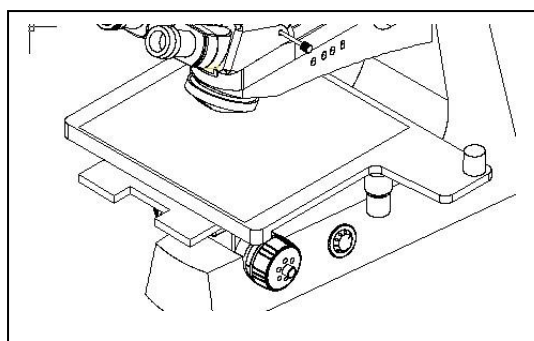

Fig.2
1. Loosen the setscrew①.
2. Push the stage into the holddown groove ②and make the stage touch the retainer③.
3. Tighten the setscrew① until the stage is installed firmly.
5. Fig.2 shows the station after Installing the Stage.